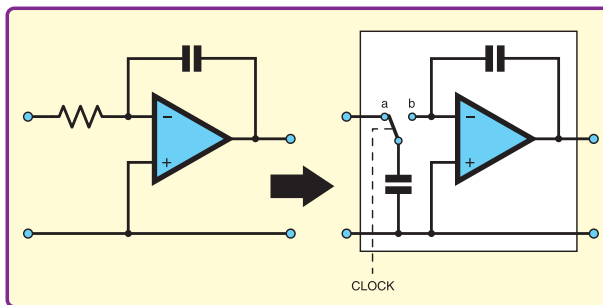

Fig.2. Traditional op amp integrator (left) and its capacitor/clocked switched filter (right)
A neat solution is a switched capacitor filter device such as National Semiconductor's MF10 integrated circuit (IC). In this chip, traditional op amp integrators are replaced by on-chip capacitors and clocked switches as shown in Fig.2.